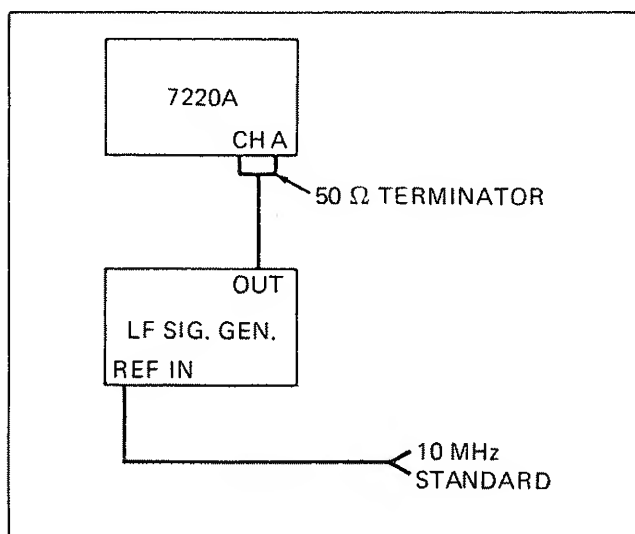

Figure 4-12. Standard Time Base Calibration
2. Connect the 7220A and test equipment as illustrated in Figure 4-12.